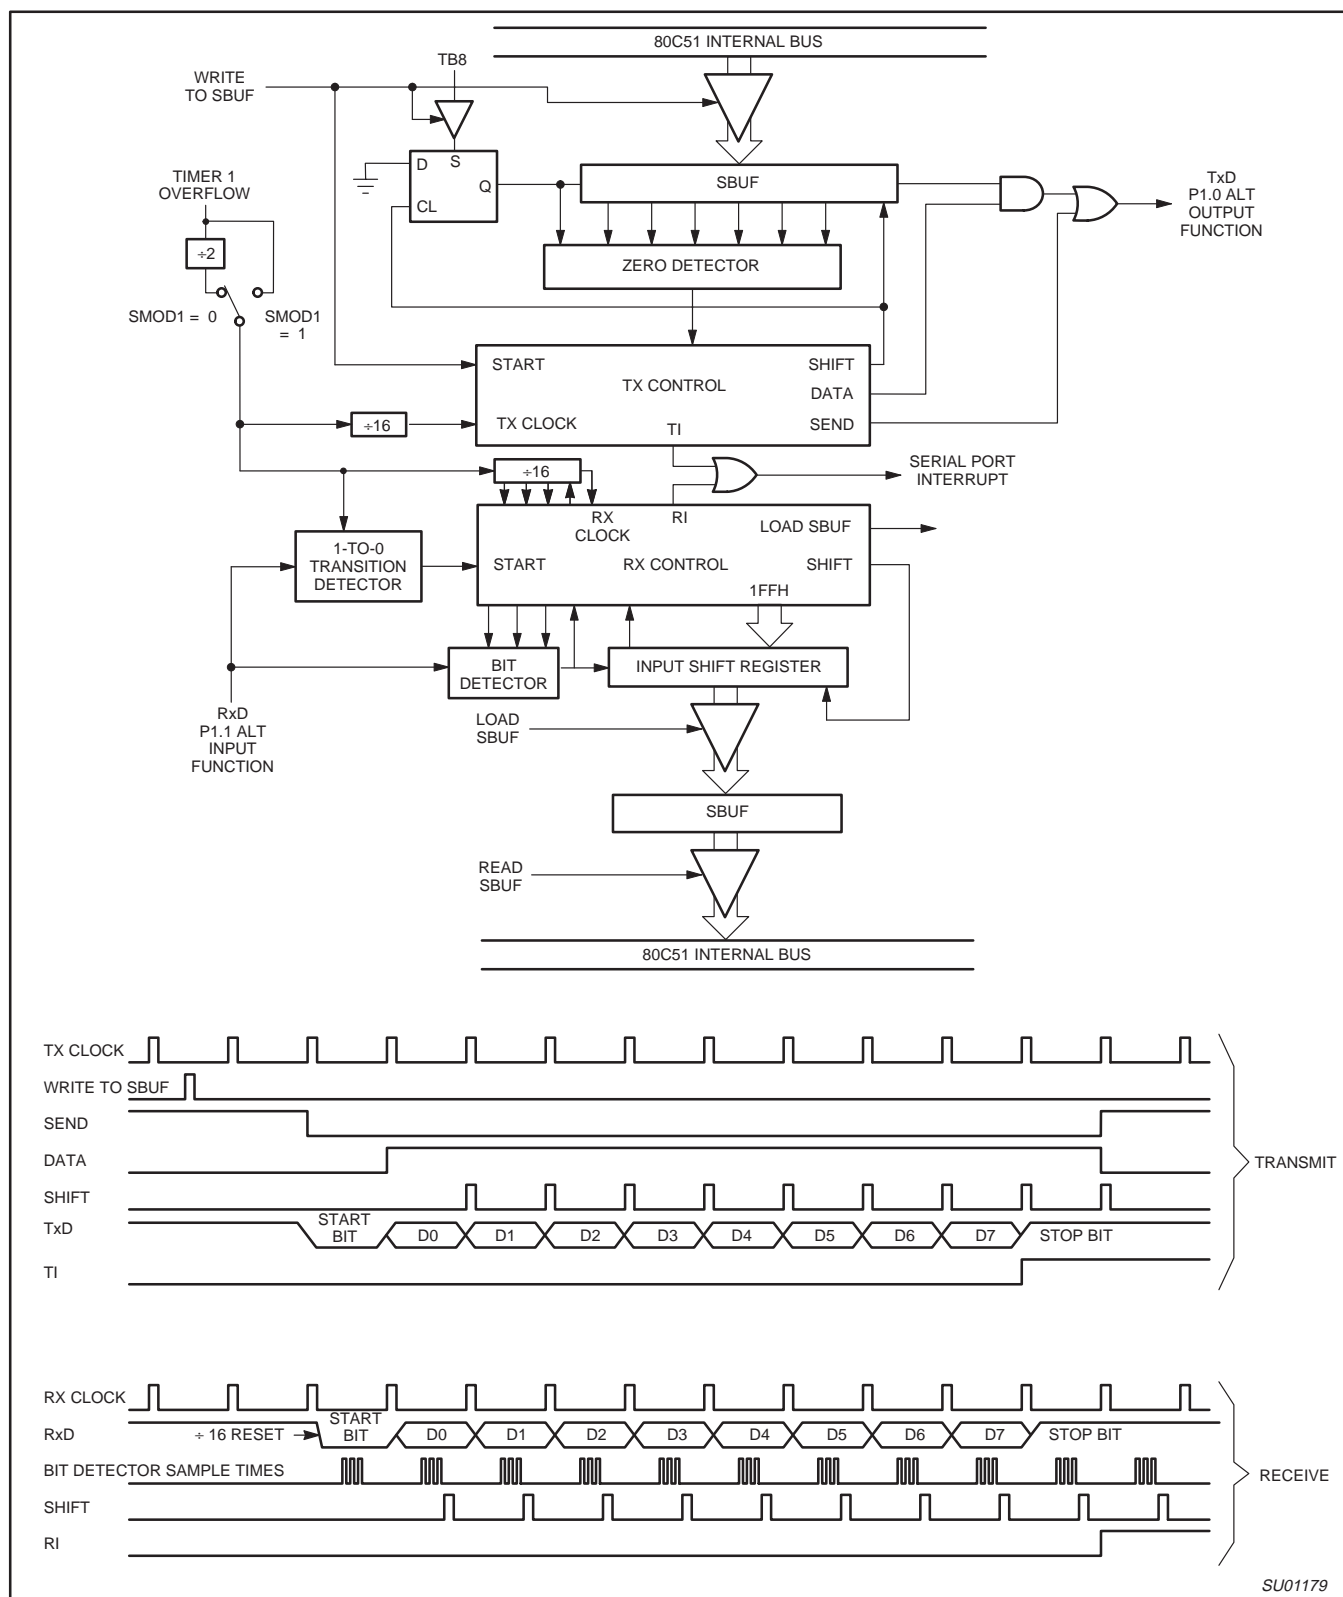

Figure 33. Serial Port Mode 1
Ten bits are transmitted (through TxD), or received (through RxD): a start bit (0), 8 data bits (LSB first), and a stop bit (1). On receive, the stop bit goes into RB8 in SCON. In the 87LPC768 the baud rate is determined by the Timer 1 overflow rate. Figure 33 shows a simplified functional diagram of the serial port in Mode 1, and associated timings for transmit receive.